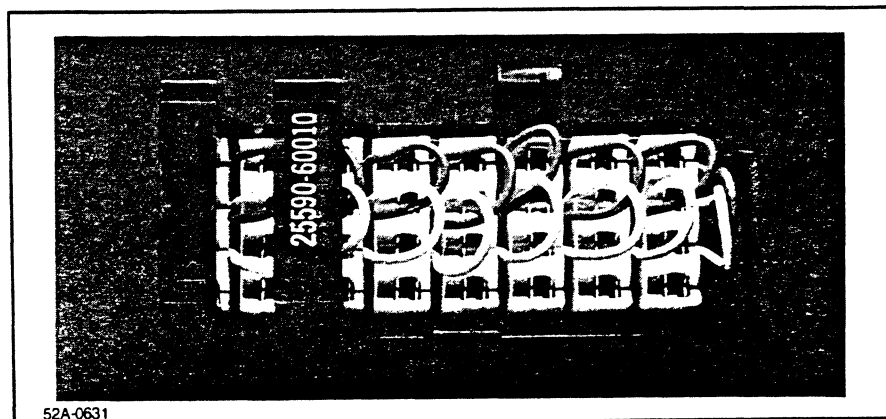

Figure 6-4. Shorting connector
- 3) Shorting connector, part number 25590-60010, as shown in figure 6-4.
- 1) Short the inputs of the first channel of the LLMUX card. This involves connecting the HIGH, LOW, and GROUND pins of the channel. This is most easily done with the shorting connector (part number 25590-60010) shown in figure 6-4. Connect the shorting connector to the first block of eight channels on the card, just as though you were connecting a field wiring cable. (You don't have to use the shorting connector if you don't want to, but we have found that using the connector is easier than trying to run wires between all those little pins.)